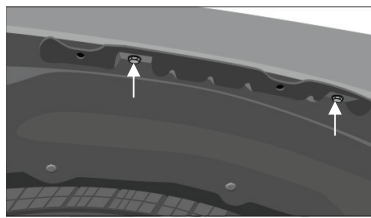

Figure 4
3. Using two supplied screws mount the fender flare bracket to the truck using the existing holes in the top center of the wheel well as shown in **Figure 4**. The bracket marked LF mounts to the driver's side RF to the passenger side of the truck.